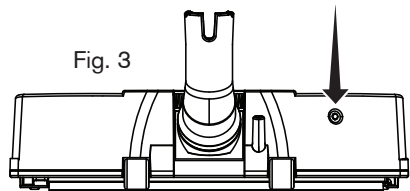

Fig. 3
- Locate the circuit breaker button on the back of the power nozzle and press it to reset the breaker (Fig. 3).